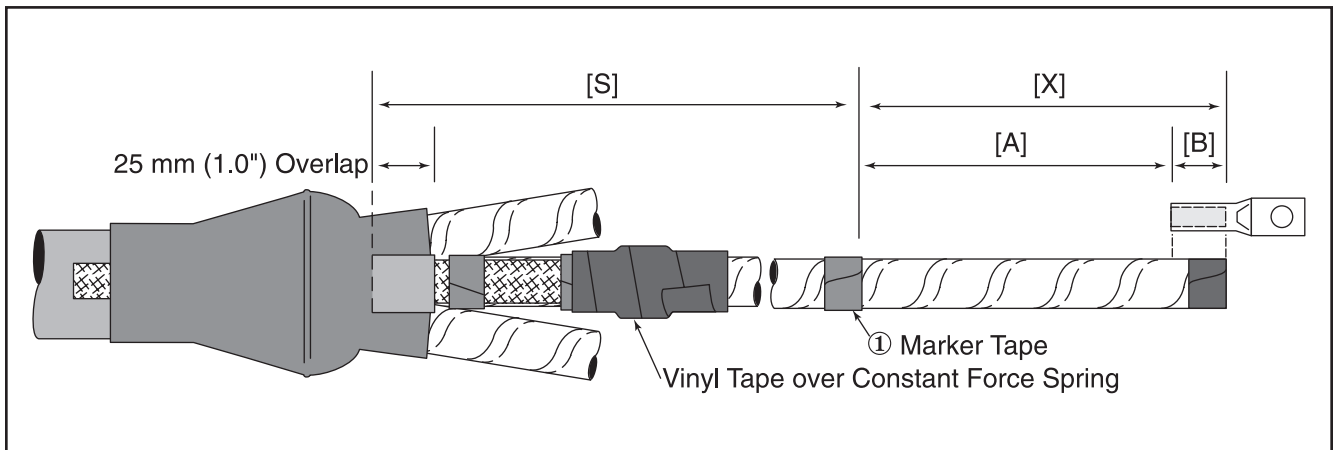

Figure 5
4.2 Place a vinyl tape marker on each cable phase leg at dimension X (① Figure 5).
4.3 Determine required phase re-jacketing sleeve length (S - 1" (25 mm) Figure 5).